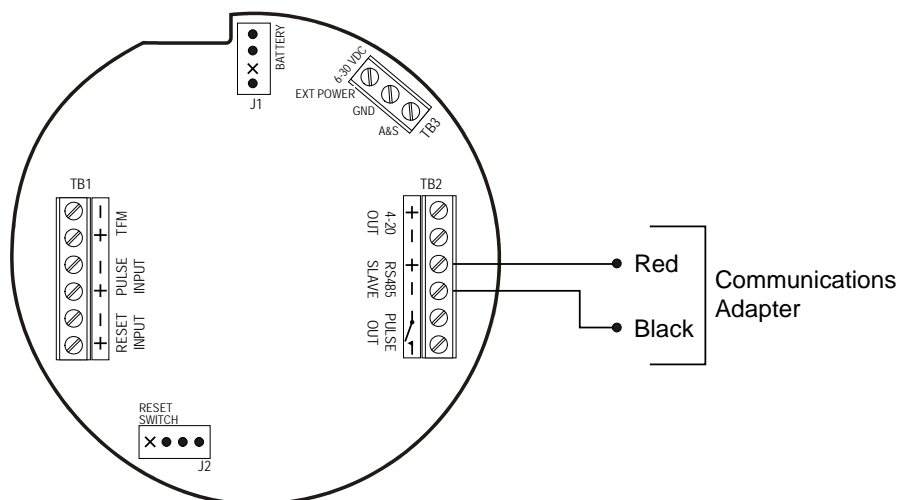

Figure A.6—Circuit board connection for communications adapter
2. Connect the adapter cable to the RS-485 port on the MC-III EXP main circuit board (Figure A.6).
3. Connect the adapter cable to the RS-485 port on the MC-III EXP main circuit board (*Figure A.6, page A-5*).